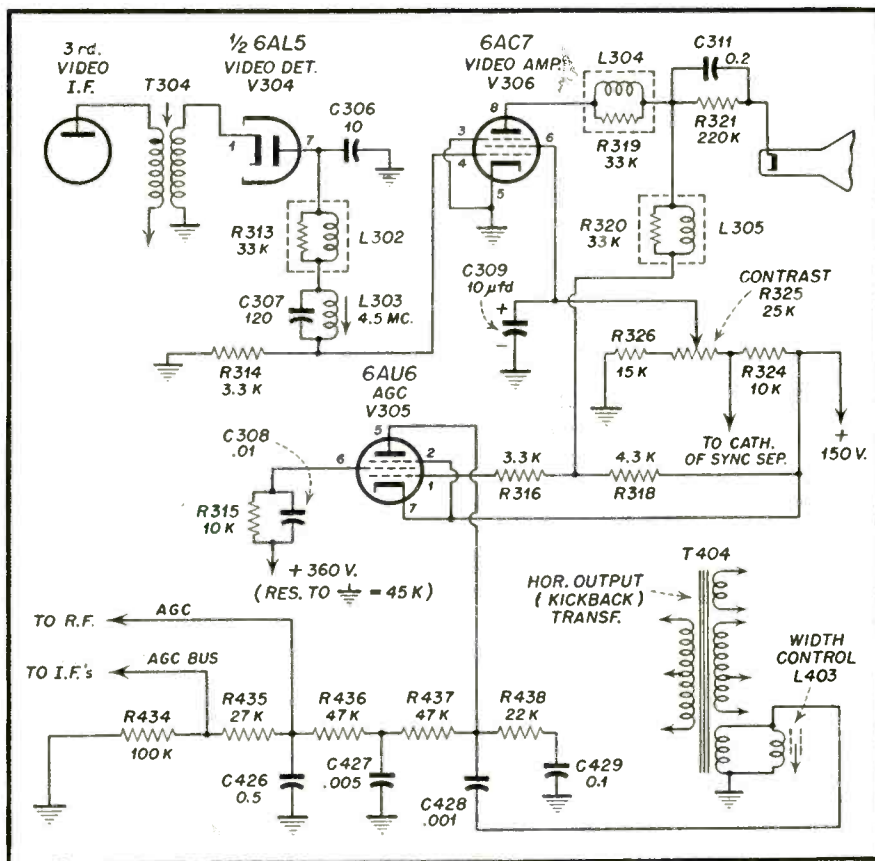

Fig. 1. Partial schematic of Admiral, Model 24D1, showing video detector, video amplifier, and keyed AGC stages.
2. The video strip appears to be the defective section. All the tubes in the video strip are changed, but no improvement is noted. A scope is used to help localize the trouble to the defective stage. The scope is applied to the video detector output, pin 7, 6AL5, V304 (Fig. 1). With a channel tuned